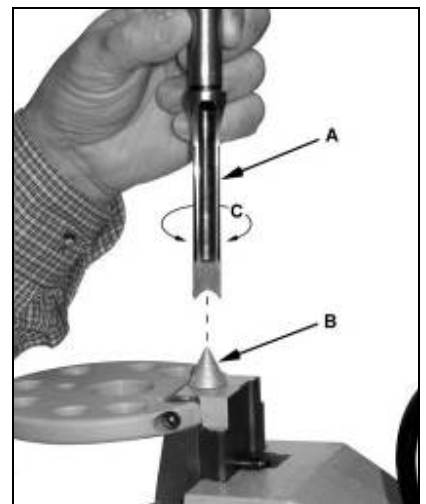

Fig 15
Sharpen the chisel (A, Fig 15) with the chisel sharpening cone (B). Set the chisel on the sharpening cone and rotate back and forth (C) until sharpened.